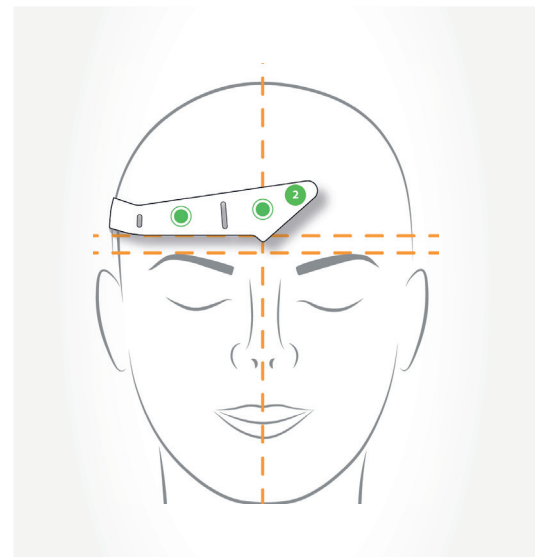

Figure 17: Position the electrodes above the nose and eyebrow.
- Position the Nose electrode (the green dot next to nr 2) at the center of the forehead above the nose, and one finger above the eyebrow. The triangle shape of the DeltaScan Patch (nose indicator, under the green dot) points towards the nose. The other electrode (green dot) automatically is at the right position too, above the eyebrow. See Figure 17.